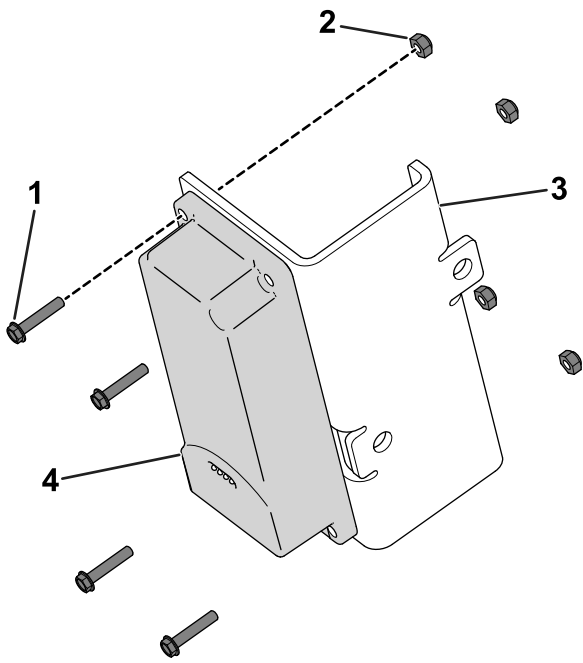

Figure 10
1. Use 4 hex-head bolts (#10 x 1 inch) and 4 locknuts (#10) to secure the telematics device to the device bracket (Figure 10).